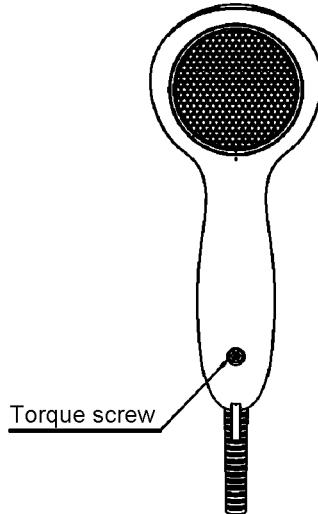

Figure 1
1. Remove 1 torque screw from Housing B by using torque head driver as shown in Figure 1.